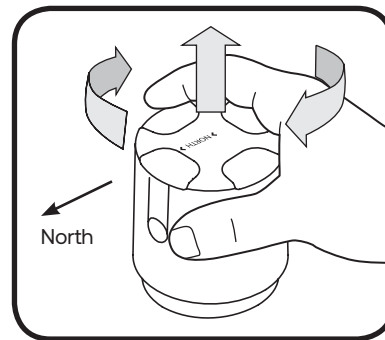

Figure 2
E. Orient the Controller towards North: Lift up on the controller, which will also lift the receptacle with it. While lifting, rotate the controller and socket until the word North on the top of the controller is directed toward true North. Then lower the assembly back into place (Figure 2).